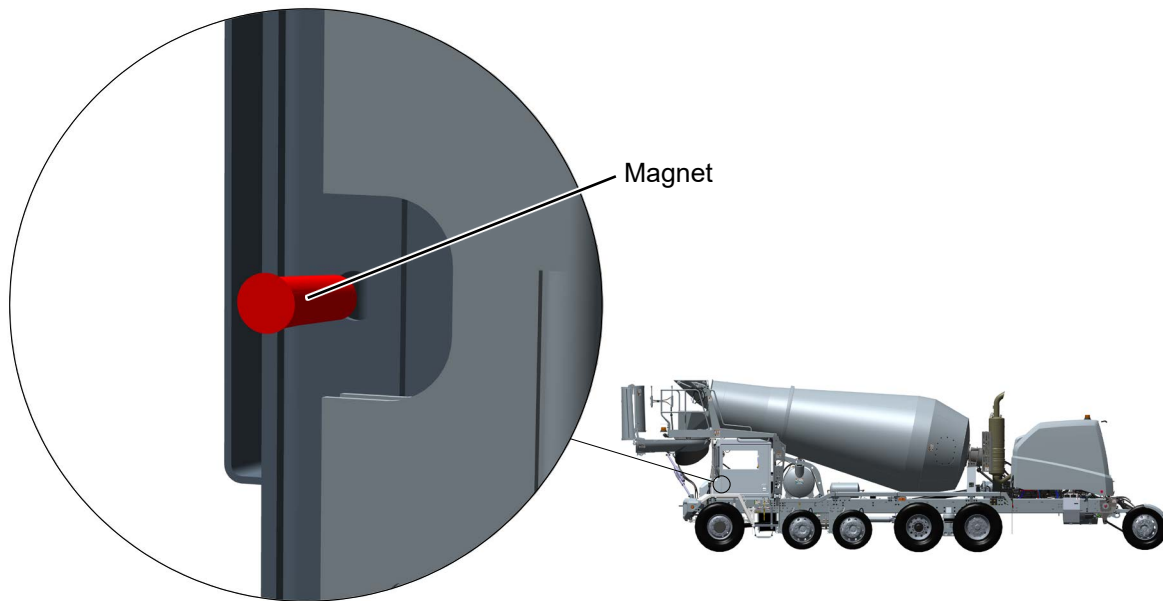

Figure 5
16. Locate and remove magnet from end of door. See Figure 5. Discard magnet.